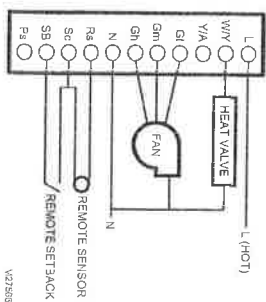

Fig. 7. Two pipes Heat-only wiring diagram (120/240/277 Vac shown).
- Refer to Fig. 7–Fig. 13, beginning on page 8.